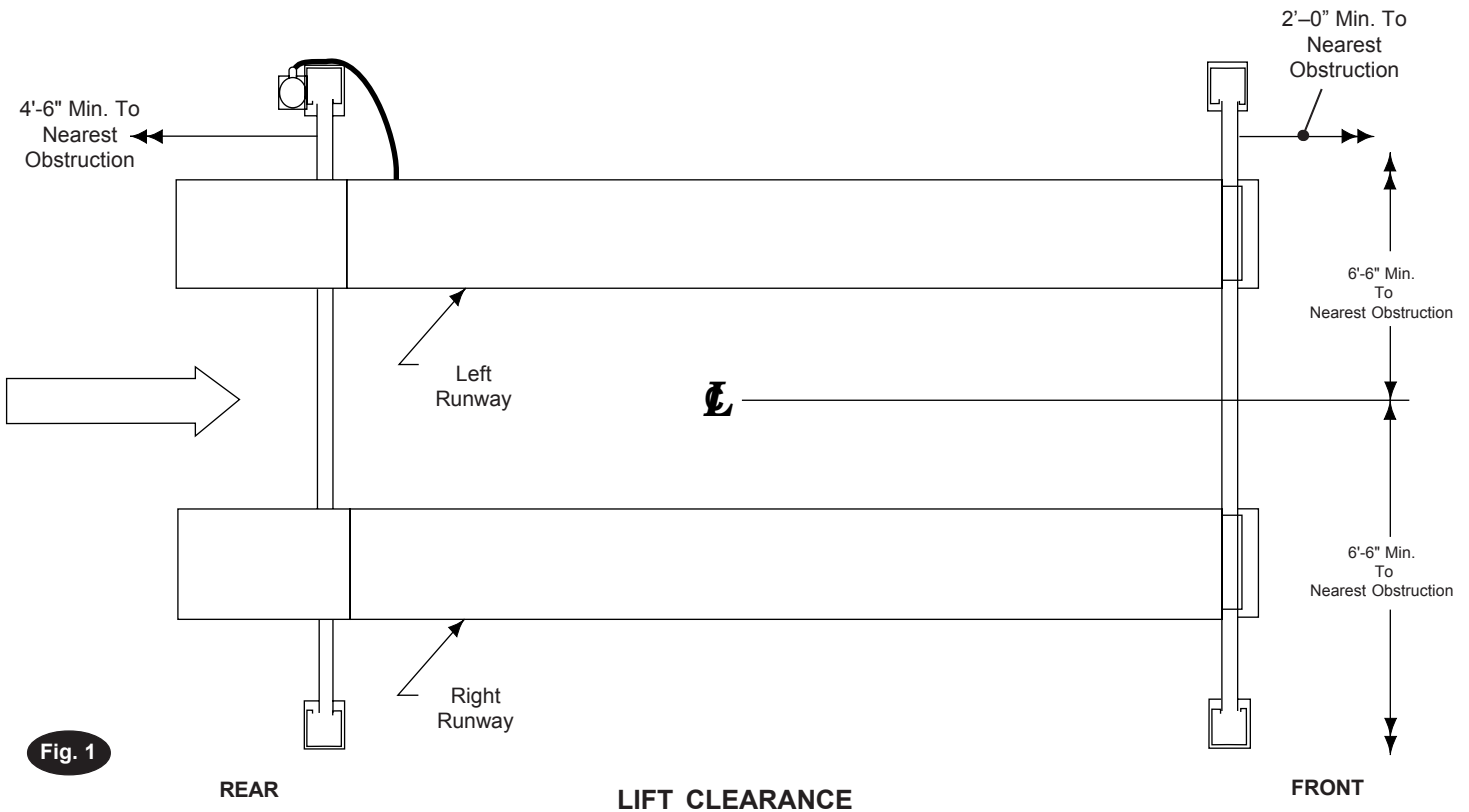
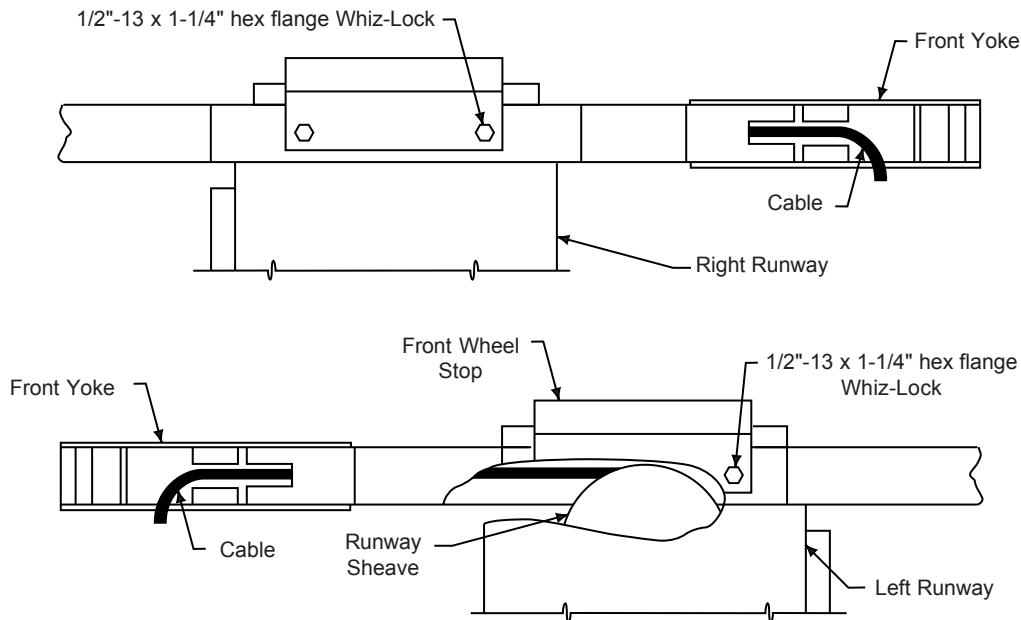

Fig. 1
Fig. 4
1. **Lift Location:** Use architects plan when available to locate lift. Fig. 1 shows dimensions of a typical bay layout. For power unit at right front, rotate lift 180°, leaving ramp/chocks and wheel stops in original position. Lift floor area should be level.
- C. Position front and rear yokes at respective ends of runway, Fig. 1. The opening in the side of the yokes should be lined up with the cable sheaves in the runway ends. Feed cable ends through yoke openings, Fig. 4. Do not assemble sheaves in yoke ends at this time.
With the openings in the yoke tube side lined up with the left runway ends, align the two (2) holes in the top of the front yoke tube with the slots in the runway end plates and the holes in the front wheel stops. Bolt runway to the yoke using four 1/2" x 1-1/4" hex flange bolts, Fig. 4. The right runway may be located in two (2) locations on yokes, allowing for either 40" or 43" between runways. Align the slots of the right runway end plates with the desired set of holes in the yoke tube. Make sure front and rear are located in the same set of holes.